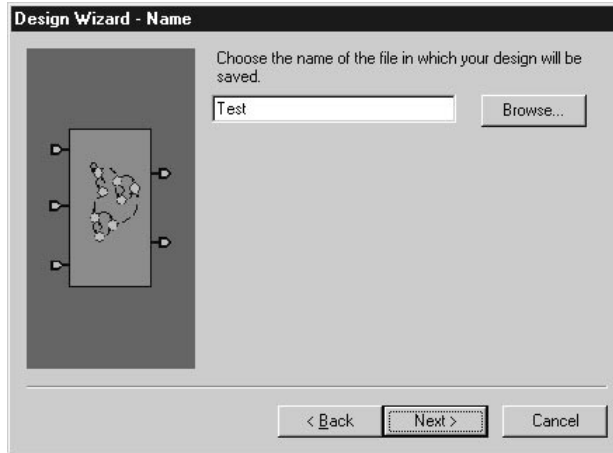

Figure 1-6. Design Wizard - Name Window.
2. Clicking on the **Next** button, activates the next window, which in this case it is the **Design Wizard - Name** window (Figure 1-6).